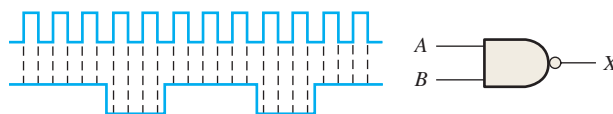

FIGURE 3-83
17. For the set of input waveforms in Figure 3-83, determine the output for the gate shown and draw the timing diagram.